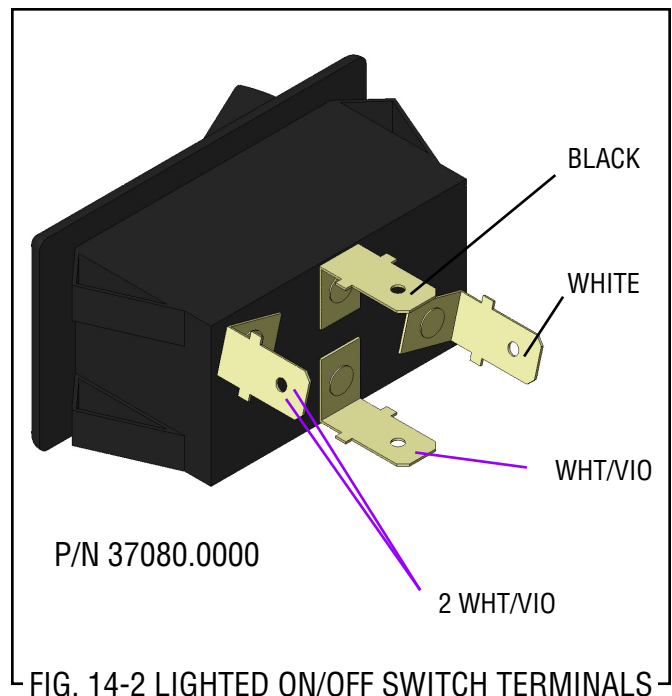

FIG. 14-2 LIGHTED ON/OFF SWITCH TERMINALS
4. Refer to FIG. 14-2 when reconnecting the wires.